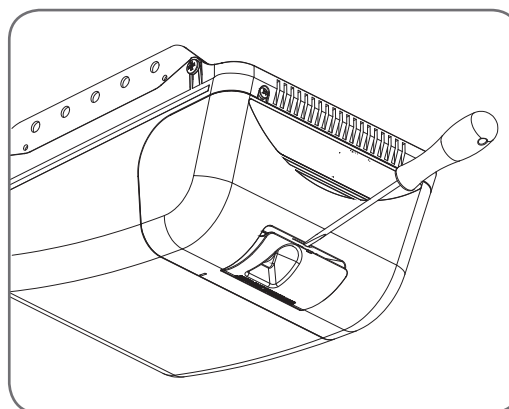

fig 22
- Remove the button cover with a blade screwdriver (Fig. 22).